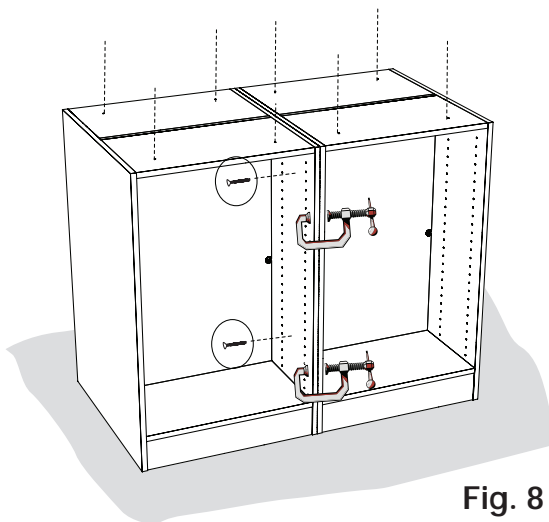

Fig. 8
7. Stand unit(s) upright. Position units in their final location (side-by-side for Full Islands). Ensure adequate clearance for walking adjacent to the units and for drawer opening, etc. To create a Full Island, clamp together two units side-by-side ensuring the unit faces are flush. Use two (2) 1" screws to secure two half islands together. (See Fig. 8.) Remove clamps.
8. Lay the countertop on the island unit and square it up. Use 1" screws to attach the island sections to the countertop through the two holes in each top panel. (See Figs. 8 and 9.)